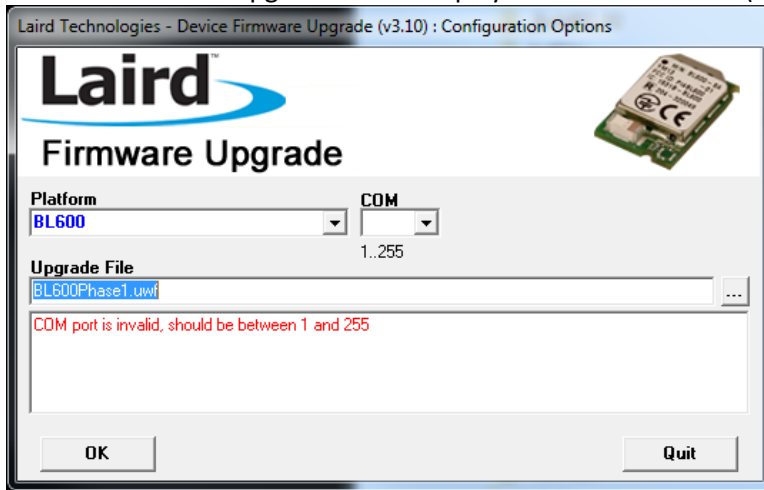

Figure 3: BL600UartFwUpgrade launch screen
4. Start BL600UartFwUpgrade.exe to display the launch window (Figure 3).